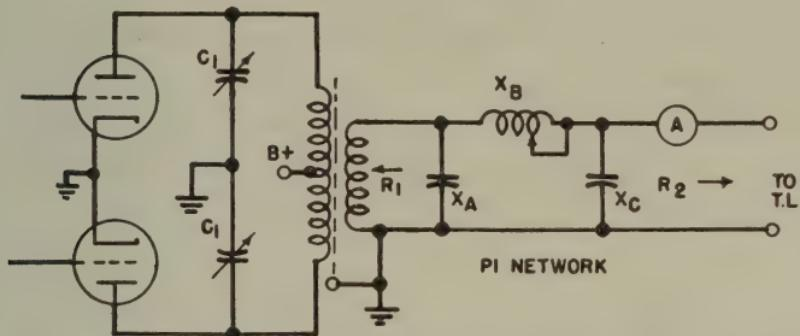

FIG. 4-11.—Transmission-line coupling system.
**Ans.** Figure 4-11 illustrates a schematic arrangement of a final power-amplifier stage with transmission-line coupling and harmonic-suppression circuit.